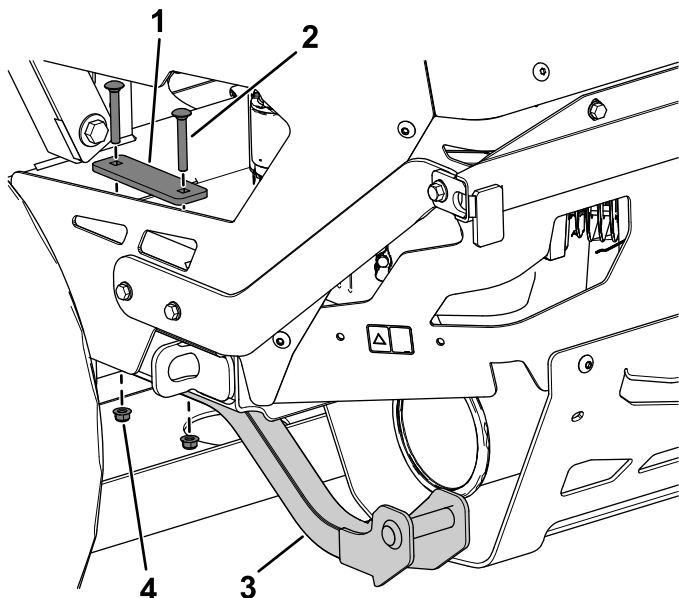

Figure 14
- Loosely secure the lower support to the engine plate using 2 carriage bolts (5/16 x 2-1/4 inches), 1 backer plate, and 2 flange nuts (5/16 inch) as shown in Figure 14.